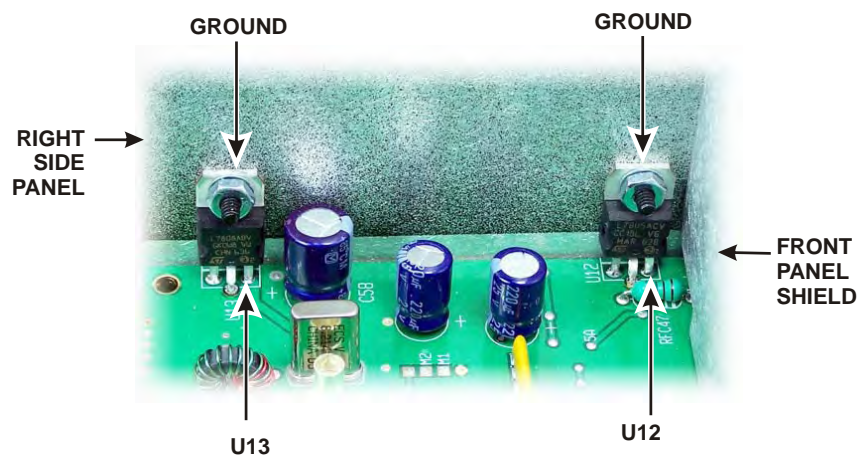

Figure 55. U12 and U13 Test Points.
- Use your DMM to measure the resistance between the terminal on U12 and ground shown in Figure 55. The resistance must be greater than 500 ohms.
- Use your DMM to measure the resistance between the terminal on U13 and ground shown in Figure 55. The resistance must be greater than 150 ohms.